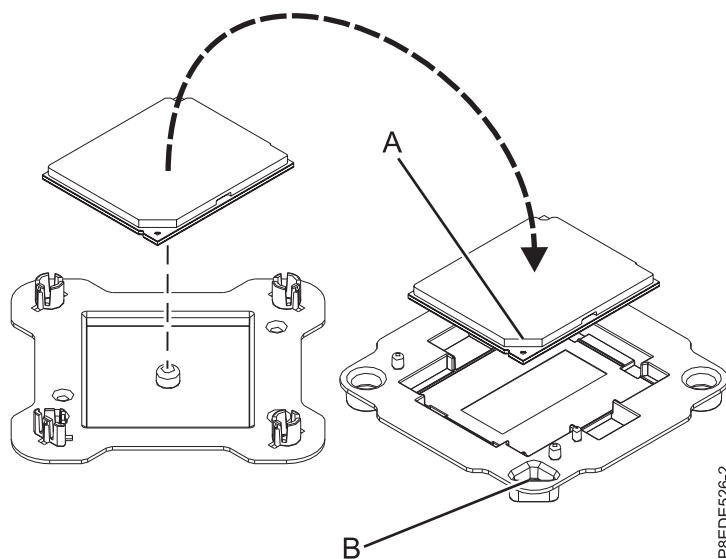

Figure 178. Placing the system processor module into the packaging
13. Lightly grip the system processor module that you replaced by the edges and lift it off of the packaging cover. Align the beveled corner of the module (A) to the corner of the packaging with triangle (B) and place it in the packaging, as shown in Figure 178. Close the packaging cover.